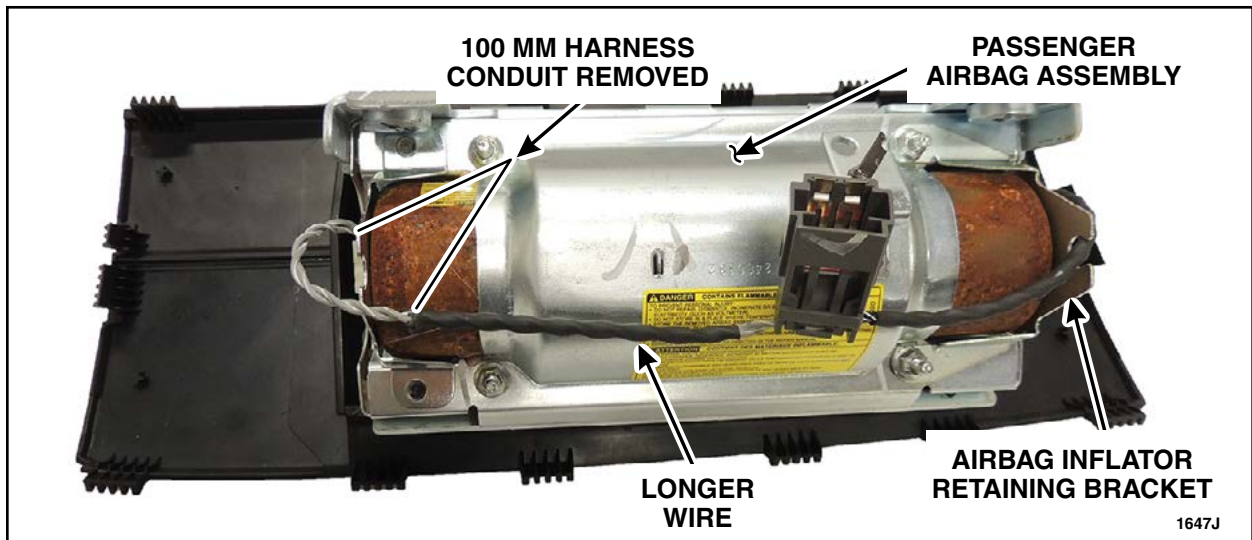

FIGURE 7
NOTE: Carry out this Step on the longer wire on the end opposite of the airbag inflator retaining bracket. See Figure 7.
2. Remove approximately 100 mm (3.93 in) of the conduit from the passenger airbag assembly wire harness. See Figure 7.